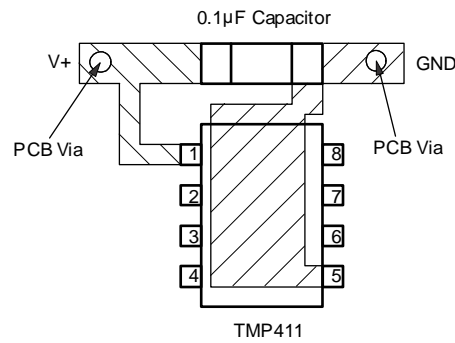

Figure 22. Suggested Bypass Capacitor Placement
- Use a 0.1- $\mu$ F local bypass capacitor directly between the V+ and GND pins of the TMP411, as shown in Figure 22. Minimize filter capacitance between D+ and D– to 1000 pF or less for optimum measurement performance. This capacitance includes any cable capacitance between the remote temperature sensor and the TMP411 .